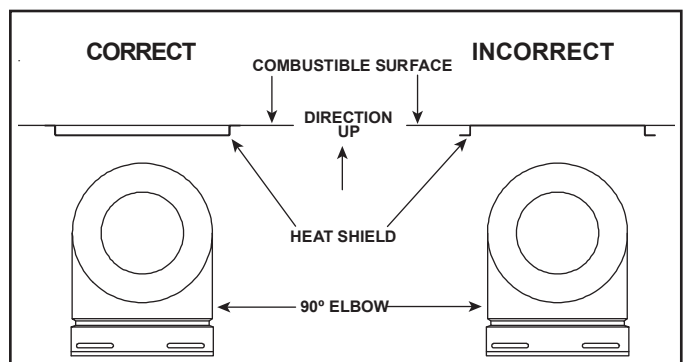

Figure 5.3
2. Fasten the shield in place using the four pilot holes. The shield should be oriented such that the 13 1/8 inch dimension (longest dimension) is running in the same direction the elbow is pointing. The shield should be centered directly above the elbow, and positioned so that it creates a 1/2 inch airspace between the shield and the combustible surface. See Figure 5.3.